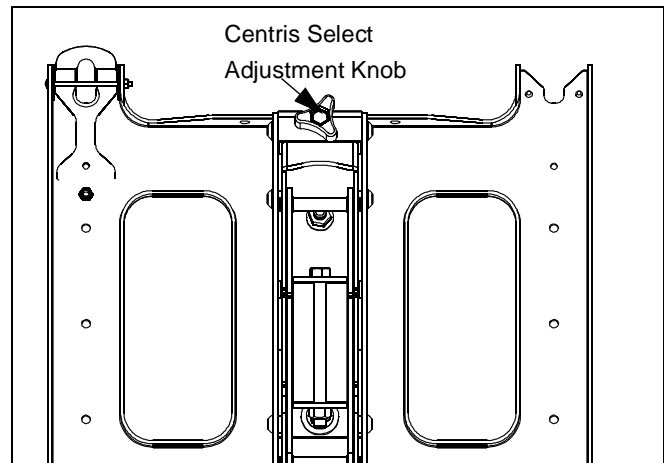

Figure 10
2. Adjust the Centris Select knob until desired vertical tilt tension is obtained. (See Figure 10)